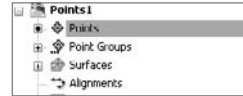

Figure 5.4
8. Locate the Points entry on the Prospector tab of the Toolspace, as shown in Figure 5.4. Select the Points entry.